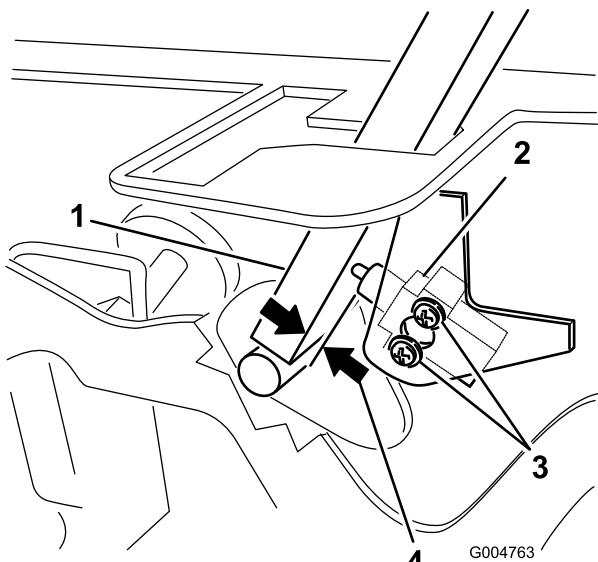

Figure 60
3. Loosen the 2 screws securing the interlock switch (Figure 60).
4. Holding the control lever against the frame, move the switch toward the lever until the distance between lever and switch body is 0.015 to 0.045 inch (0.4 to 1 mm) (Figure 60).